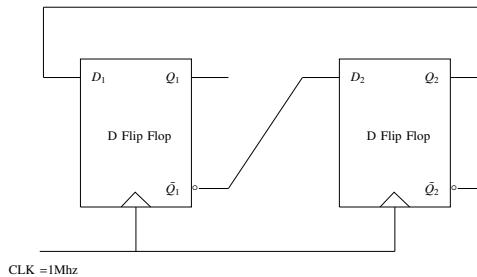

Fig. 5.7
7. In a given sequential circuit in Fig. 5.7, initial states are  $Q_1 = 1$  and  $Q_2 = 0$ . For a clock frequency of  $1MHz$ , find the frequency of signal  $Q_2$  in kHz (rounded off to the nearest integer). (GATE EC 2023)